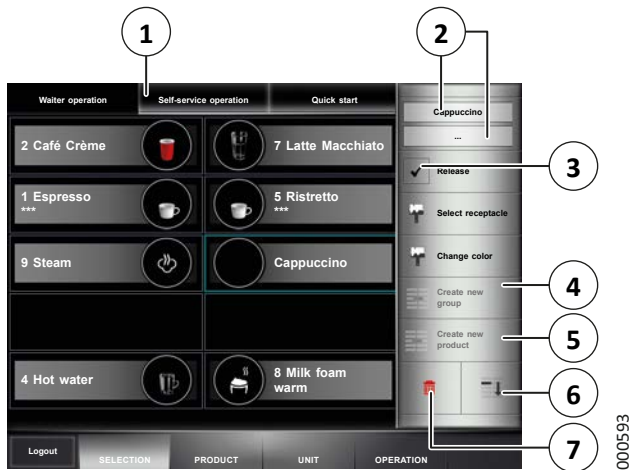

Fig. 31: Menu option “Selection”
4. Under “Language selection” (4), select the language that should be used for the name.
- Select a default name: Under “Category models” (2), select a category and then select a name from the list below (1).
- Enter your own name: Press the corresponding line (3) and enter a name using the screen keyboard (see chapter 7.2 on page 24).
7. Press the “Release” button (3) (see Fig. 31) to activate the created group for dispensing.
3. Press the “Create new product” button (5) (see Fig. 31).
5. Press the “Release” button (3) (see Fig. 31) to activate the created product for dispensing.
2. Press the “Down” button (6) (see Fig. 31) to move the product group or product button downward.
2. Press the delete symbol (7) (see Fig. 31).